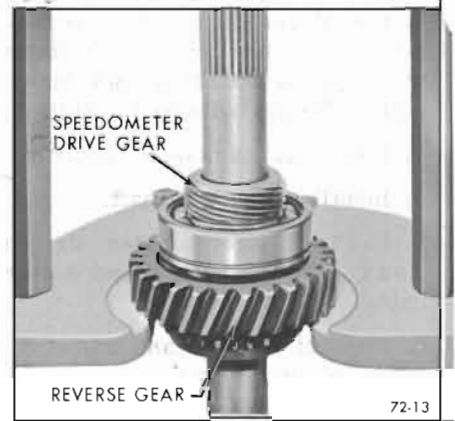

Figure 72-13—Removing Speedometer Drive Gear
4. Remove speedometer drive gear. See Figure 72-13.